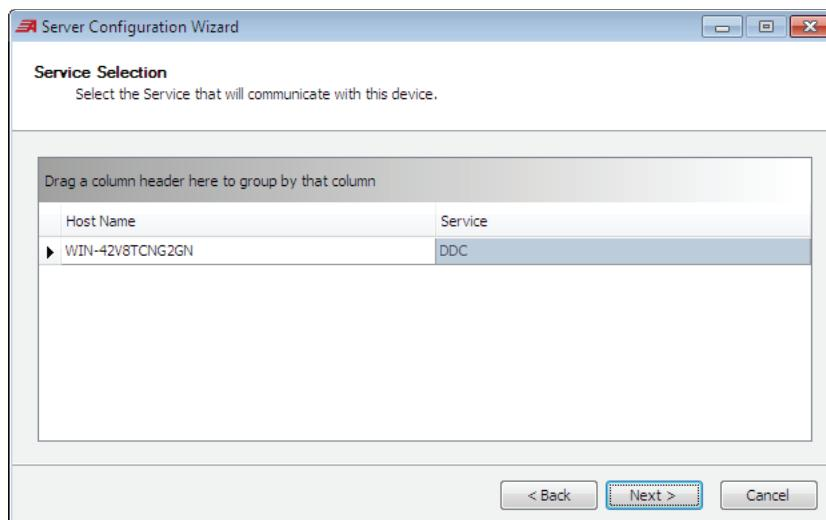
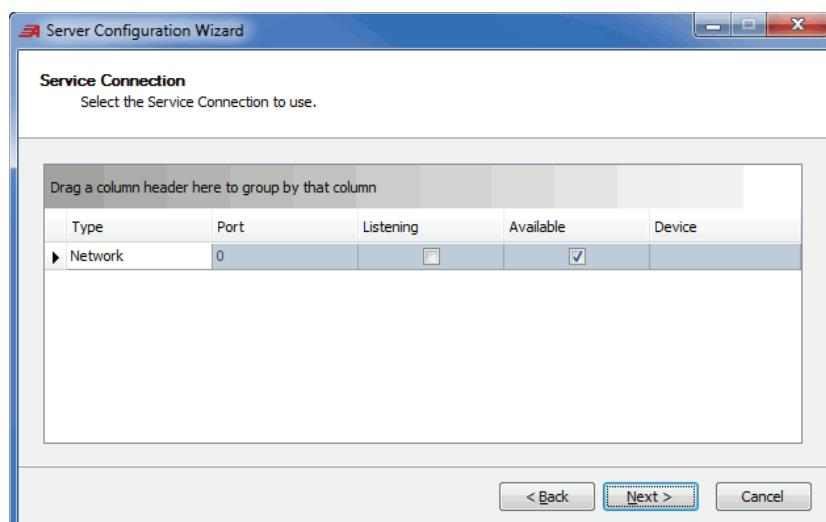

Figure 32 TEAM Service Selection Window
Figure 33 TEAM Network Service Connection Window
Step 4. Select the DDC service with your computer's hostname from the list shown in *Figure 32*. Unless other DDC services are reporting to your database, this is the only option you see. Select **Next** to open the **Service Connection** window shown in *Figure 33*.